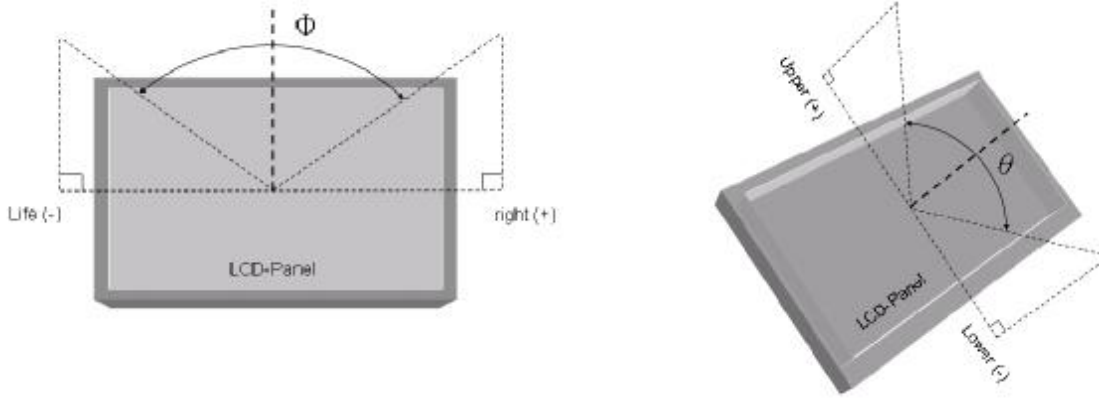

Fig.2 Definition of Viewing Angle
*4) Definition of Viewing Angle(θ, ϕ),refer to Fig.2 as below :